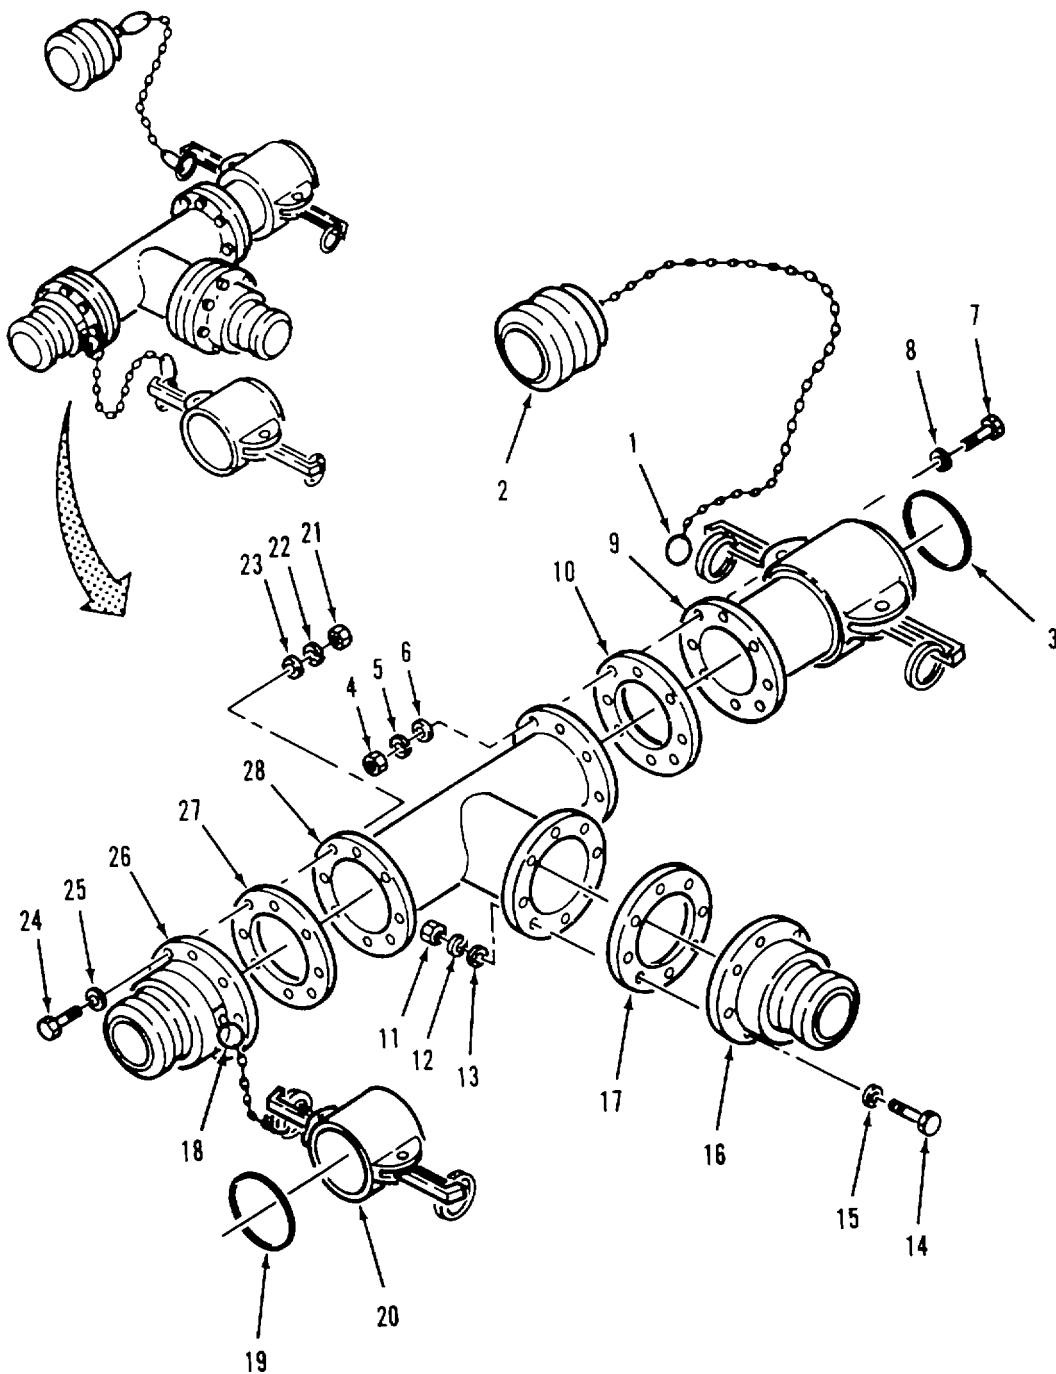

Figure 4-6. Tee Assembly (9117-Y1) Disassembly.
- a. Disassembly. Refer to figure 4-6.
- (1) Disconnect ring (1) from female coupling (9) and remove plug (2).
- (2) Remove gasket (3) from female coupling (9).
- (3) Remove eight nuts (4), lock washers (5), flat washers (6 and 8), and bolts (7).
- (4) Separate female coupling (9) and gasket (10) from tee (28).
- (5) Remove eight nuts (11), lockwashers (12), flat washers (13 and 15), and bolts (14).
- (6) Separate male coupling (16) and gasket (17) from tee (28).
- (7) Disconnect ring (18) from male coupling (26) and remove cap (20).
- (8) Remove gasket (19) from cap (20).
- (9) Remove eight nuts (21), lockwashers (22), flat washers (23 and 25), and bolts (24).
- (10) Separate male coupling (26) and gasket (27) from tee (28).